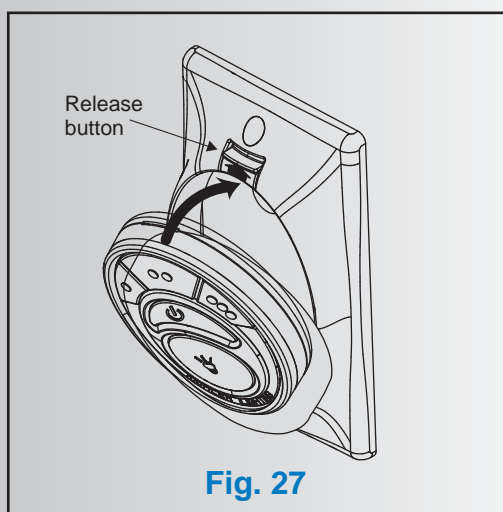

Fig. 27
1. Insert the transmitter into the wall plate by inserting the bottom of the transmitter first and then press the top of the transmitter into the pocket. The transmitter will fully function from this location or you can remove the transmitter and use as a "Hand Held" device. (Fig. 27)